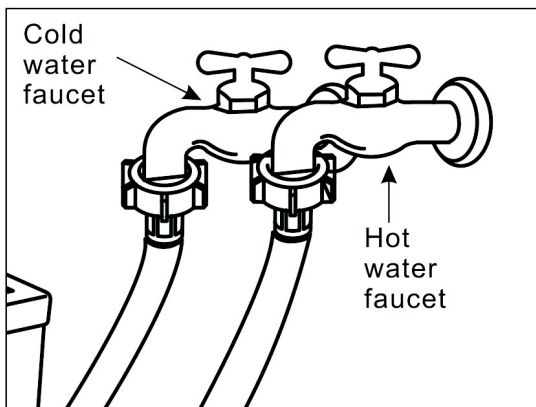
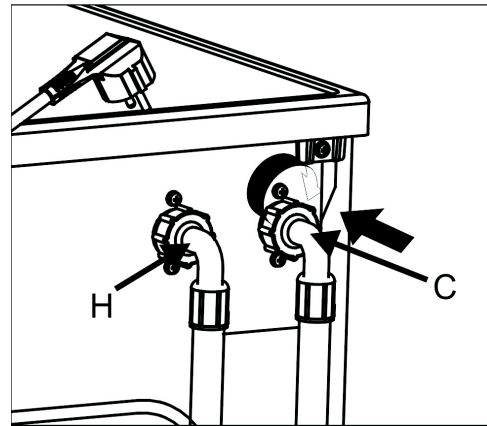

Fig.1
Fig.2
Please read the following steps carefully (Fig.1, Fig.2)
1. Connect the *straight* end of the hot-water hose to the hot-water faucet (Fig.1).
2. Connect the *straight* end of the cold-water hose to the cold-water faucet (Fig.1).
4. Connect the *L-shaped* end of hot-water hose to the inlet valve which has a red-colored filter. (Fig.2).
5. Connect the *L-shaped* end of cold-water hose to the inlet valve which has a white-colored filter. (Fig.2).